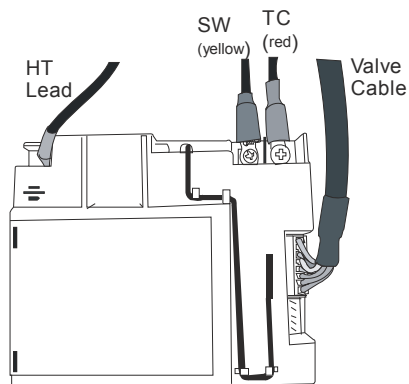

Figure 47
3. Feed the cables from the valve through the heat shield and connect to the receiver as shown in **Figure 47**, keeping the cables clear of the underside of the tray. Do not force the valve cable plug when inserting into the receiver – it only fits one way.